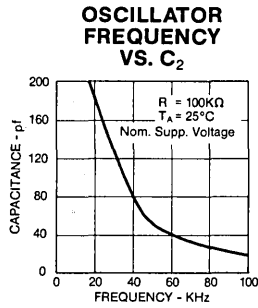

Fig. 6
** R2 (100KΩ), C2 (50pF) provide 50KHz clock frequency (see figure 6)